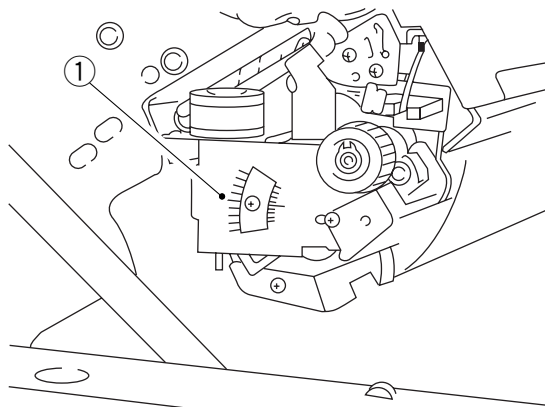

Figure 6-220 (rear view)
- The copier enters fixing film initial rotation mode (405) to return the fixing film to its proper position.
- 10) Check that the arrow ① is at the middle of the memory as shown in Figure 6-220.